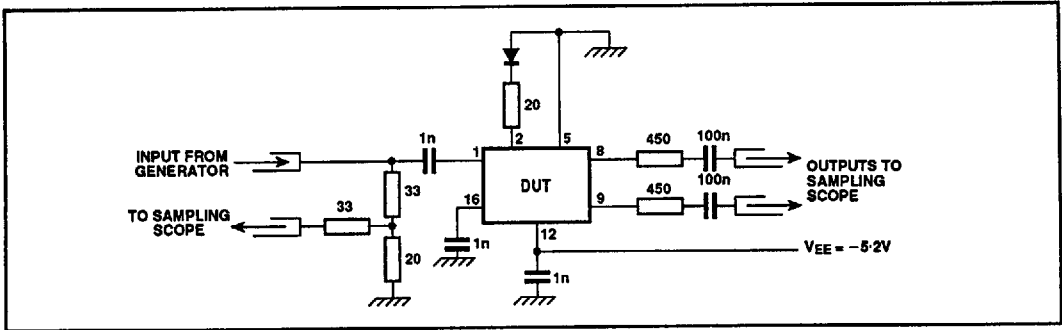

Fig. 6 Test circuit
2. The test configuration for dynamic testing is shown in Fig 6